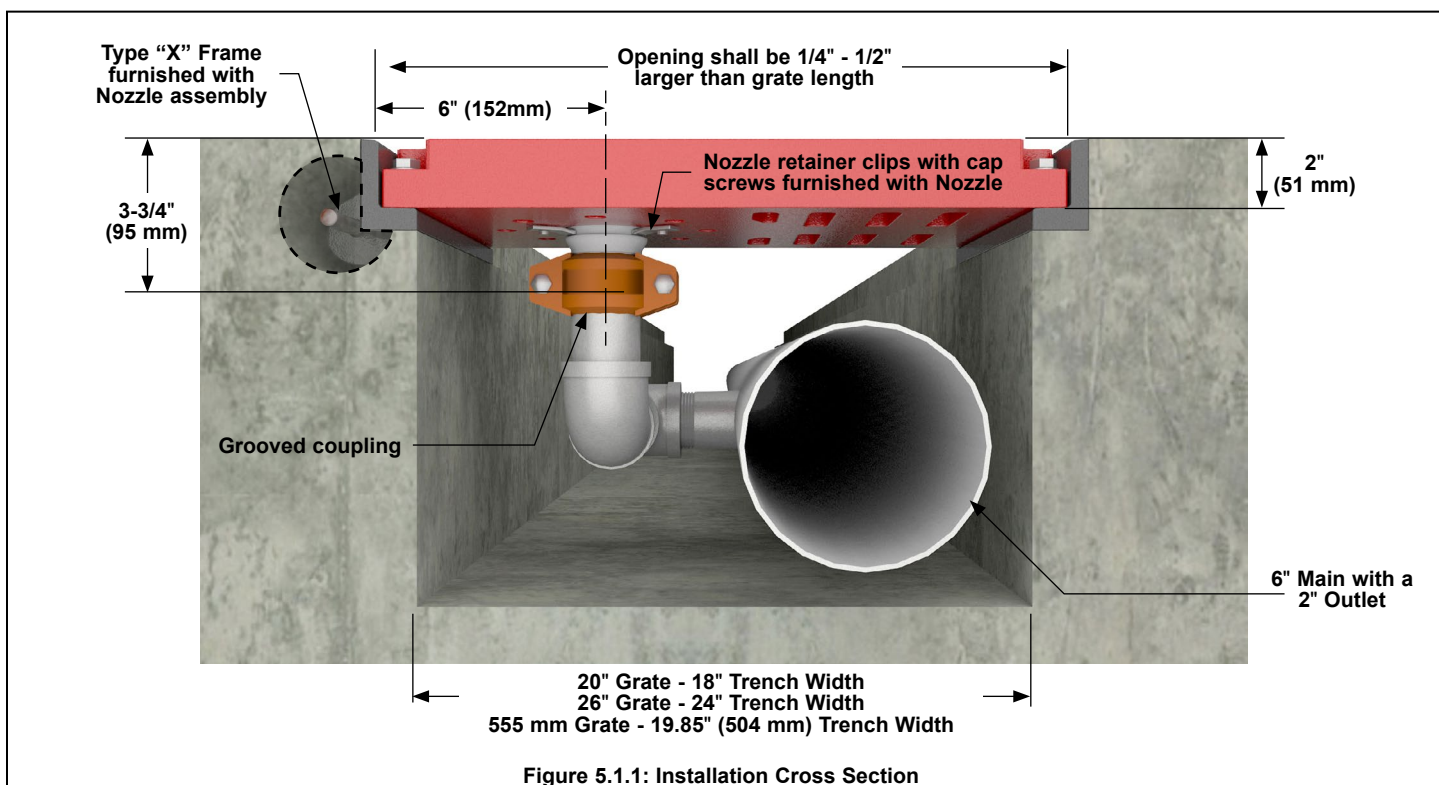

Figure 5.1.1: Installation Cross Section
- E. Installation of the Grate Nozzle assembly and standard drain trench grates require that adequate drain trench sizing has been accounted for. (see Figure 5.1.1) Trench drain size should be defined by the architect or project engineer at an early stage and prior to installation.
- G. Supply piping must be located in the trench. A 2" supply pipe should be piped horizontally from the supply main located in the trench, and then vertically to the Grate Nozzle. The 2" supply must terminate in a grooved connection to allow for installation to the Grate Nozzle. (see Figure 5.1.1)